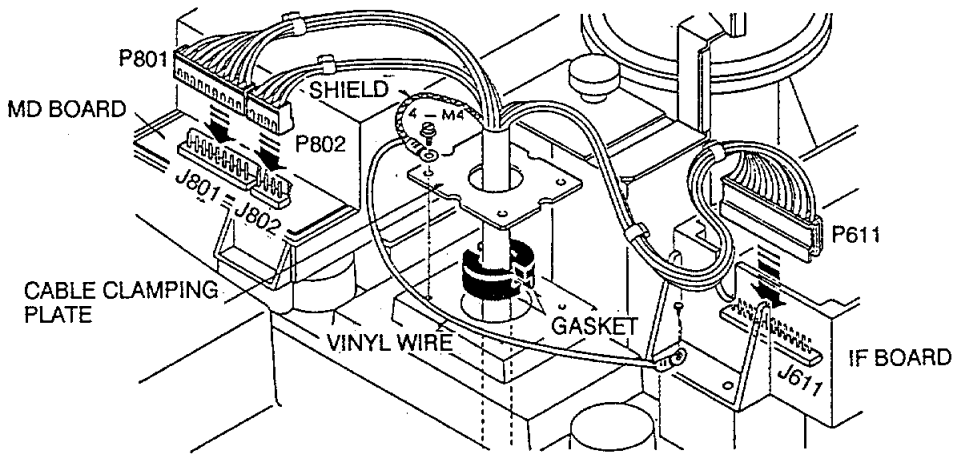

Figure 6-7 Cable Connections and Grounding
2. Remove the cable clamping plate by loosening four M4 screws and two gaskets at the radome base. See Figure 6-7.
4. Secure the cable with the cable clamping plate and gaskets. Ground the shield and vinyl cables by using one of the fixing screws for the cable clamping plate and for the IF amplifier chassis. See Figure 6-7.